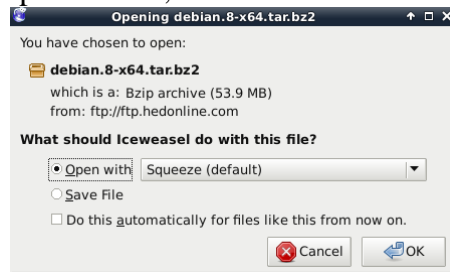

Figure 7: Linux-Open Files Dialog Box
10. A dialog box appears, prompting the user to save or open the file. Accept the default software to open the file, or choose a different application. See Figure 7.